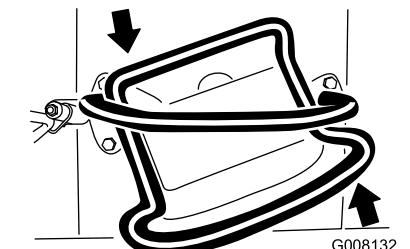

Figure 10
- To turn left, rotate the traction control counter-clockwise (Figure 10).